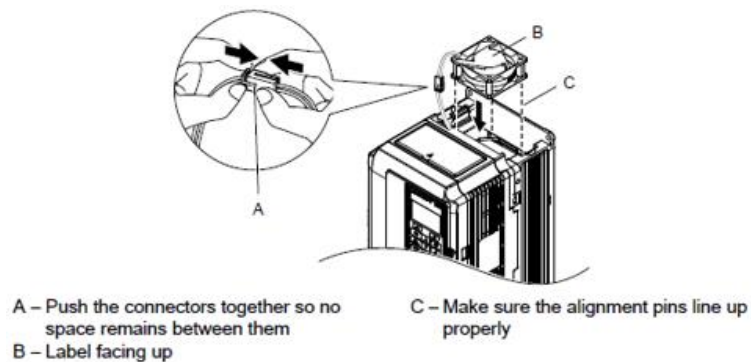

Figure 9-9 VFD Fan Reconnect
4. Install the replacement fan(s), make sure to properly align individual plug prior to connection, per Figure 9.9.